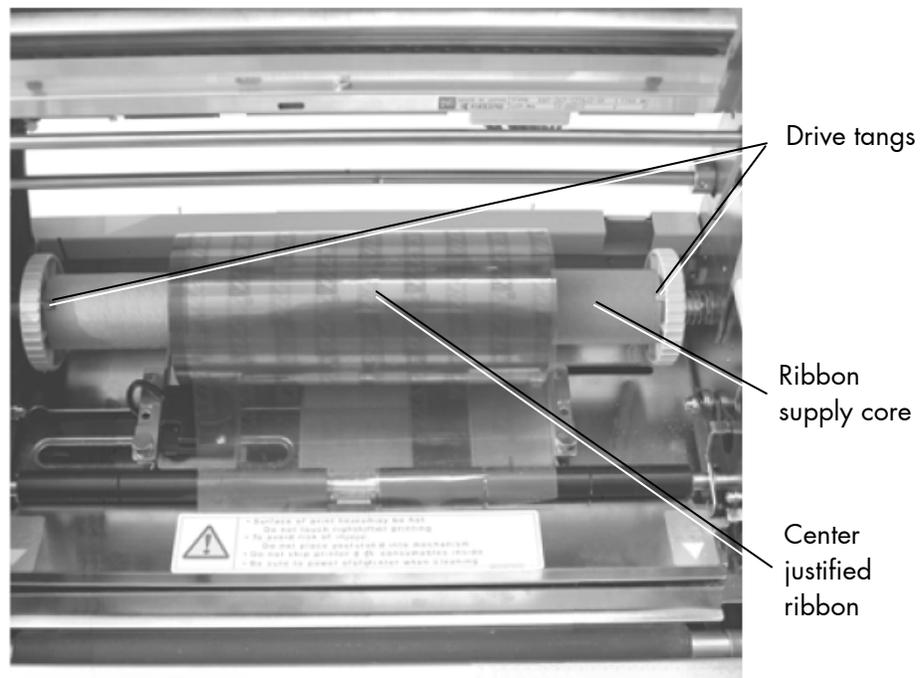

Fig. 5.3.1.b Ribbon roll placed on both ribbon supply spindles
10. Place an empty ribbon core on the ribbon take up spindles (Press outward on the right spring loaded ribbon supply spindle to make room for the installation of the ribbon core; compare steps 7 to 9 and see figure 5.3.1.c).